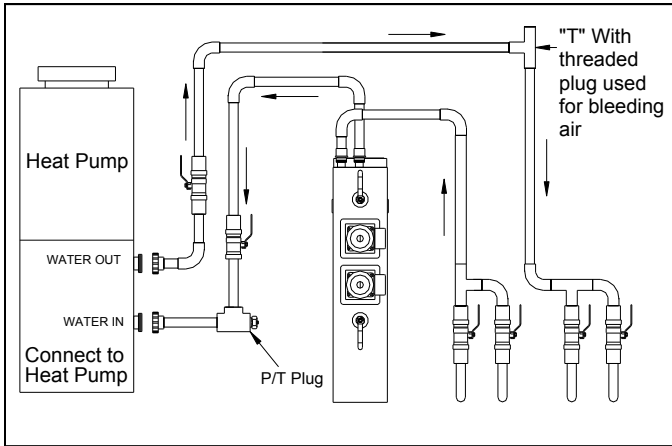

Fig. 3. Recommended Piping Schematic For Maximum Flexibility (Required With Internal Headers)
Fig. 3 Illustrates a recommended piping schematic that can be utilized when an internal header is used and separate purging of the heat pump and the ground loop is not required.
Piping is similar for either schematic with the exception of Fig. 3 showing all earth loops penetrating the mechanical area of the interior wall. Provide ball valves and P/T ports where indicated. Ball valves shall be the same as pipe size or greater. The flow center should be fastened to the wall with the bracket provided and all piping should be adequately supported. All piping shall be properly sized for the flow rate (GPM) required by the system. Reduce pipe size only at flow center and heat pump as necessary to make connections.
4. Close all loop header valves except one pair (See Fig. 3).